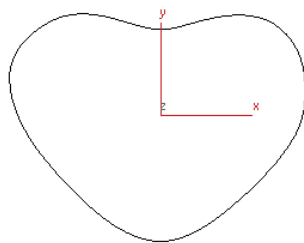
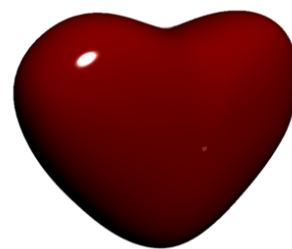

Figure 15-94 The NURBS curve to create the model of heart
Figure 15-95 The model of heart
4. Create a NURBS curve in the viewport, as shown in Figure 15-94. Next, create a NURBS model, as shown in Figure 15-95, using the **U Loft** tool. Also, apply a material to it.